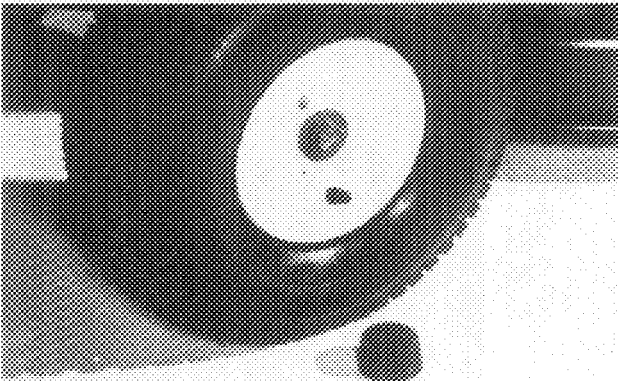

Figure 37
4. Remove the cotter pin and flat washer (Fig. 37) and remove the wheel from the axle.